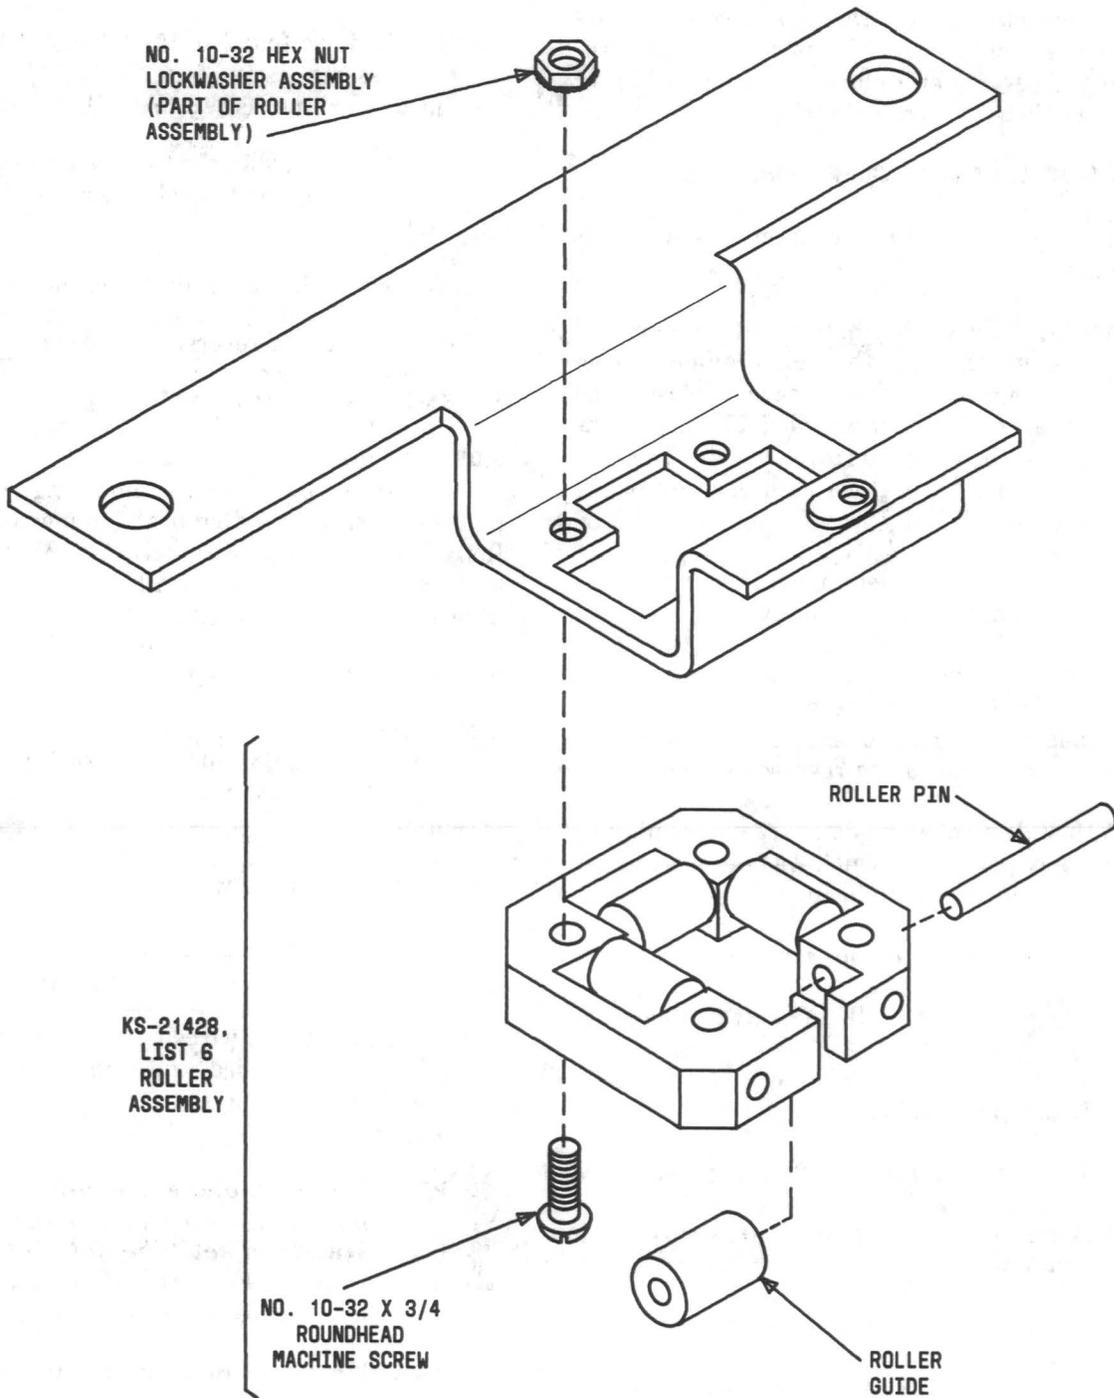

Fig. 7—KS-21428, List 5 Roller Guide Bracket Assembly
- (1) To remove bracket assembly, remove two 3/8-16 by 3/4 roundhead machine screws, two 3/8-inch lockwashers, and one No. 10-32 by 1/2 security screw. Install using reverse procedure.
- (2) To install a roller guide bracket assembly on an early phonecard which was never equipped with one, perform the following:
- (a) Separate roller guide from bracket (Fig. 7).
- (e) Assemble roller guide and secure it to bracket (Fig. 7).
- (1) Remove four No. 10-32 hex nut lockwasher assemblies and four No. 10-32 by 3/4 roundhead machine screws (Fig. 7).
- (2) Remove roller next to the opening in frame by removing the roller pin and lifting roller out.
- (3) Pull roller assembly from mounting cord.